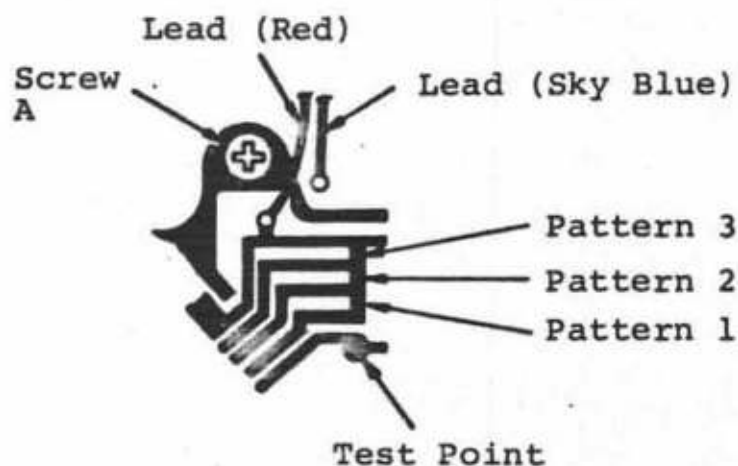

Fig. 2-12
3. Put an ohmmeter from screw "A" to the Test Point. (Fig. 2-12).